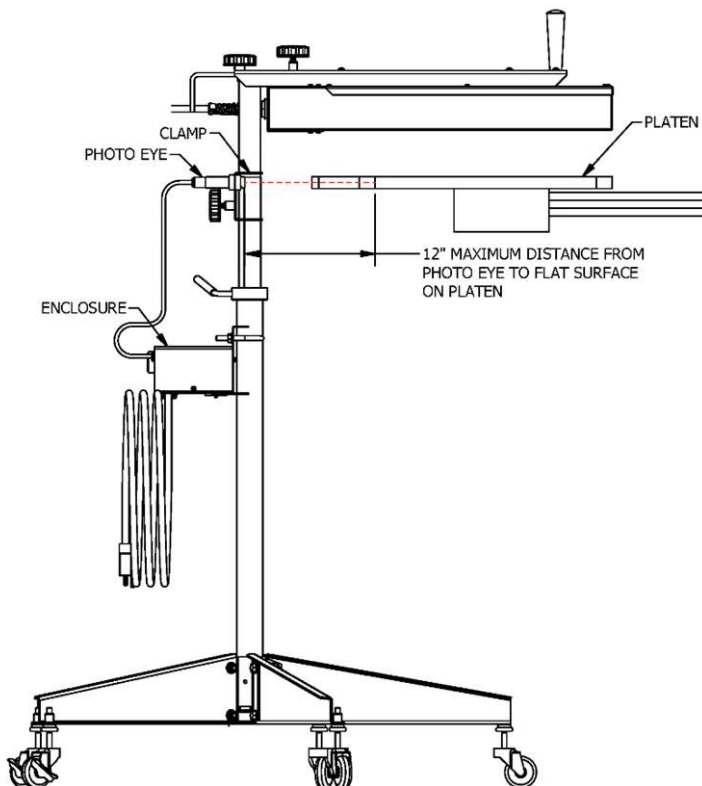

FIGURE 3
1. After mounting the **PHOTO EYE**, position the **HEATER, ENCLOSURE**, and **CLAMP** as shown in FIGURE 3.
6. Position the **HEATER** as shown in FIGURE 3 for the proper function of **PG-120/PG-218**.